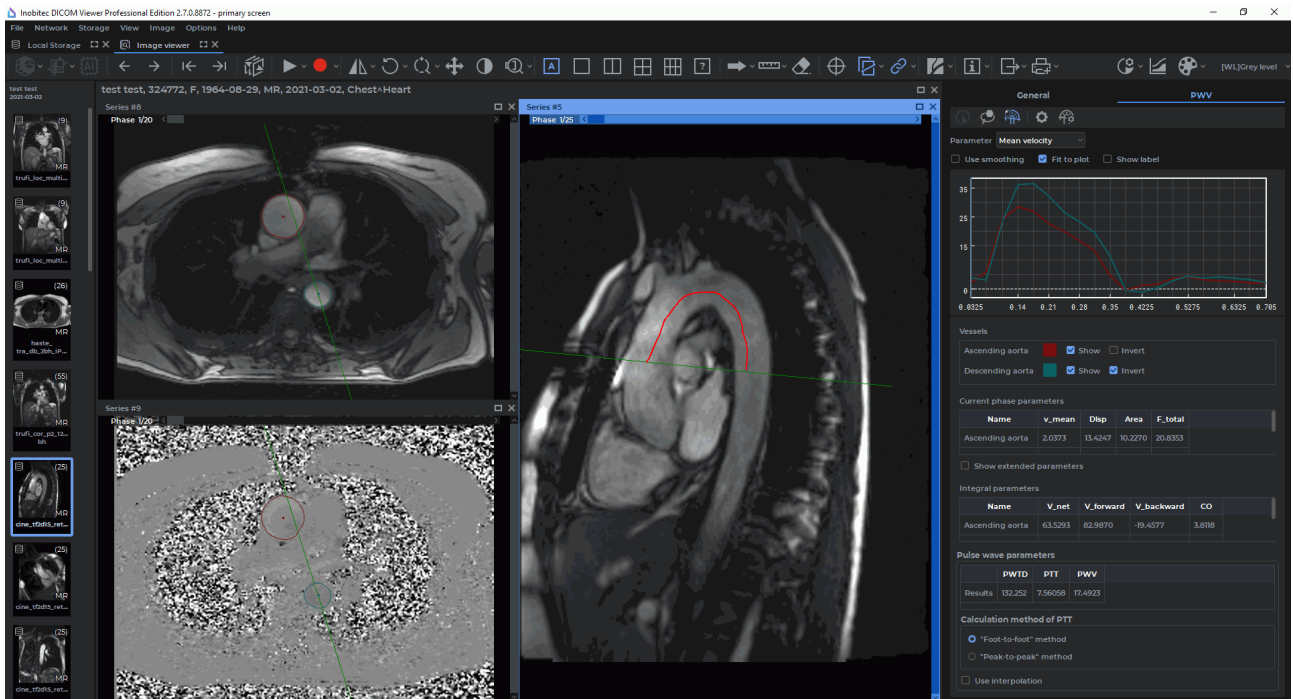

Figure 2.51: Designing a Pulse Wave Trajectory
6. Press and hold the mouse button to build the trajectory. Release the button to finish the process. The trajectory must connect the two different slices of the vessel (Fig. 2.51). The pulse wave trajectory is smoothed to fend off aliasing which causes lengthening of the curve.